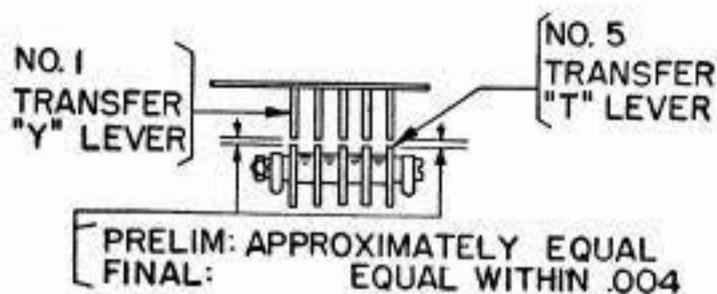

Fig. 59
2.126 Transfer Bail and Slide Assembly: (Preliminary Adjustment) (Final 2.128.) Rotate the sensing shaft to its stop position and mount the transfer bail and slide assembly (previously removed) on the base casting. Position the assembly so that the T-levers line up centrally with the Y-levers and that there is approximately equal distance between the T- and Y-levers on the No. 1 and No. 5 sets of levers. **Fig. 59**
- (1) To adjust, add or remove shims equally under the three legs of the transfer-bail-assembly bracket.
- (b) With the sensing shaft in its stop position, there should be equal clearance, within $.004$ " between the ends of the T- and Y-levers when measured between the top prongs of the No. 1 and No. 5 sets of levers. **Fig. 59**
- (1) To adjust, loosen the transfer-bail-bracket mounting screws and position the bracket. Tighten the screws.